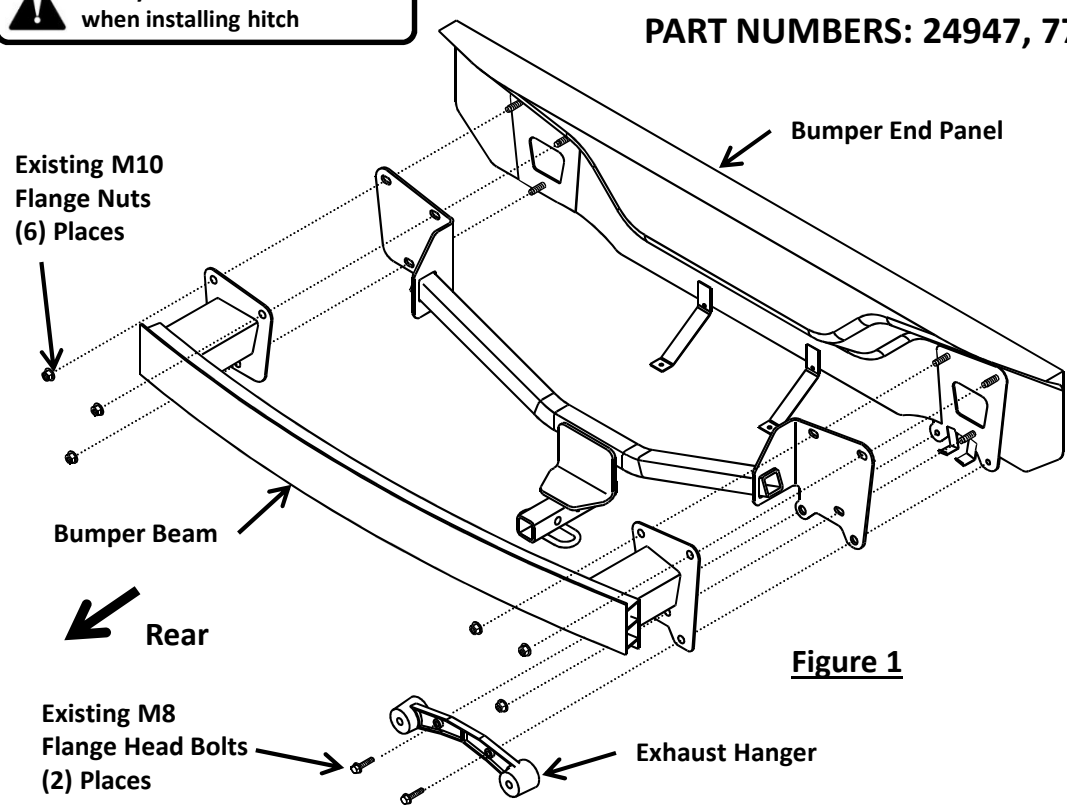

Figure 1
5. **Remove bumper beam** - using an 15mm deep wall socket with 6" extension, remove (6) flange hex nuts holding bumper beam to end panel. See Figure 1.
7. **Hitch installation** - raise hitch and bumper beam into position aligning holes with studs in the end panel. Sandwich the hitch between bumper beam and end panel. See Figure 1.
8. **Reinstall fasteners** - loosely reinstall the existing (6) M10 hex flange nuts onto the studs, (3) per side.
9. **Reinstall exhaust hanger** - reattach the exhaust hanger over the hooks on end panel and install the (2) M8 bolts.